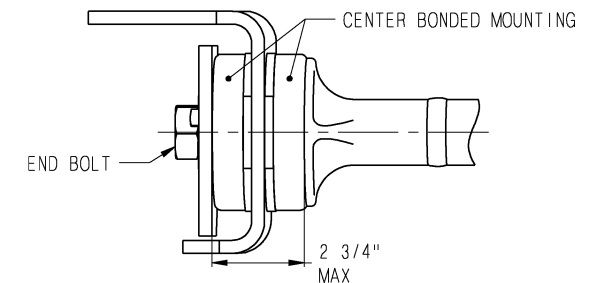

Figure 2
7. Verify the stack height of the center bonded mountings. Stack height should be 2 3/4” or less when the end bolt is fully torqued. (See Figure 2)